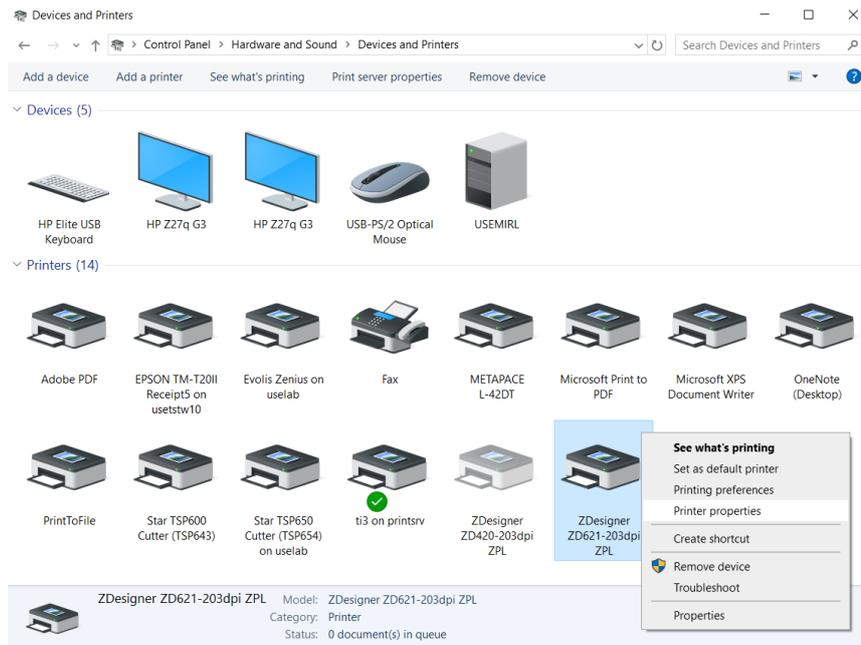

Figure 2: Control panel, devices and printers
- Figure 2: Control panel, devices and printers2
Once the driver is installed, the settings have to be adjusted before you start printing labels. This can be done in the **Control Panel**, where you select **Devices and Printers**. All the available printers will be shown on-screen. Select the *ZDesigner ZD621-203dpi ZPL* printer and right-click it. Select **Printer properties** from the options (Figure 2).